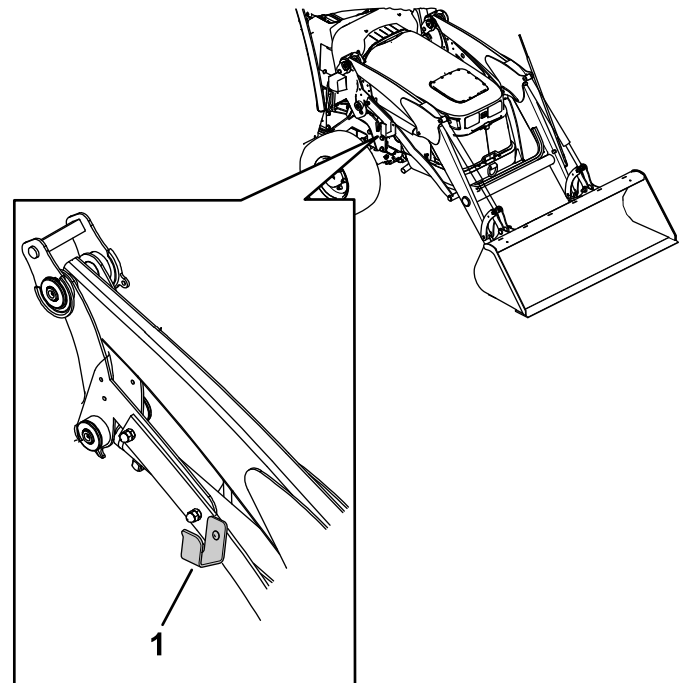

Figure 49
8. Place the hose bundle onto the hose-storage plate (Figure 49).